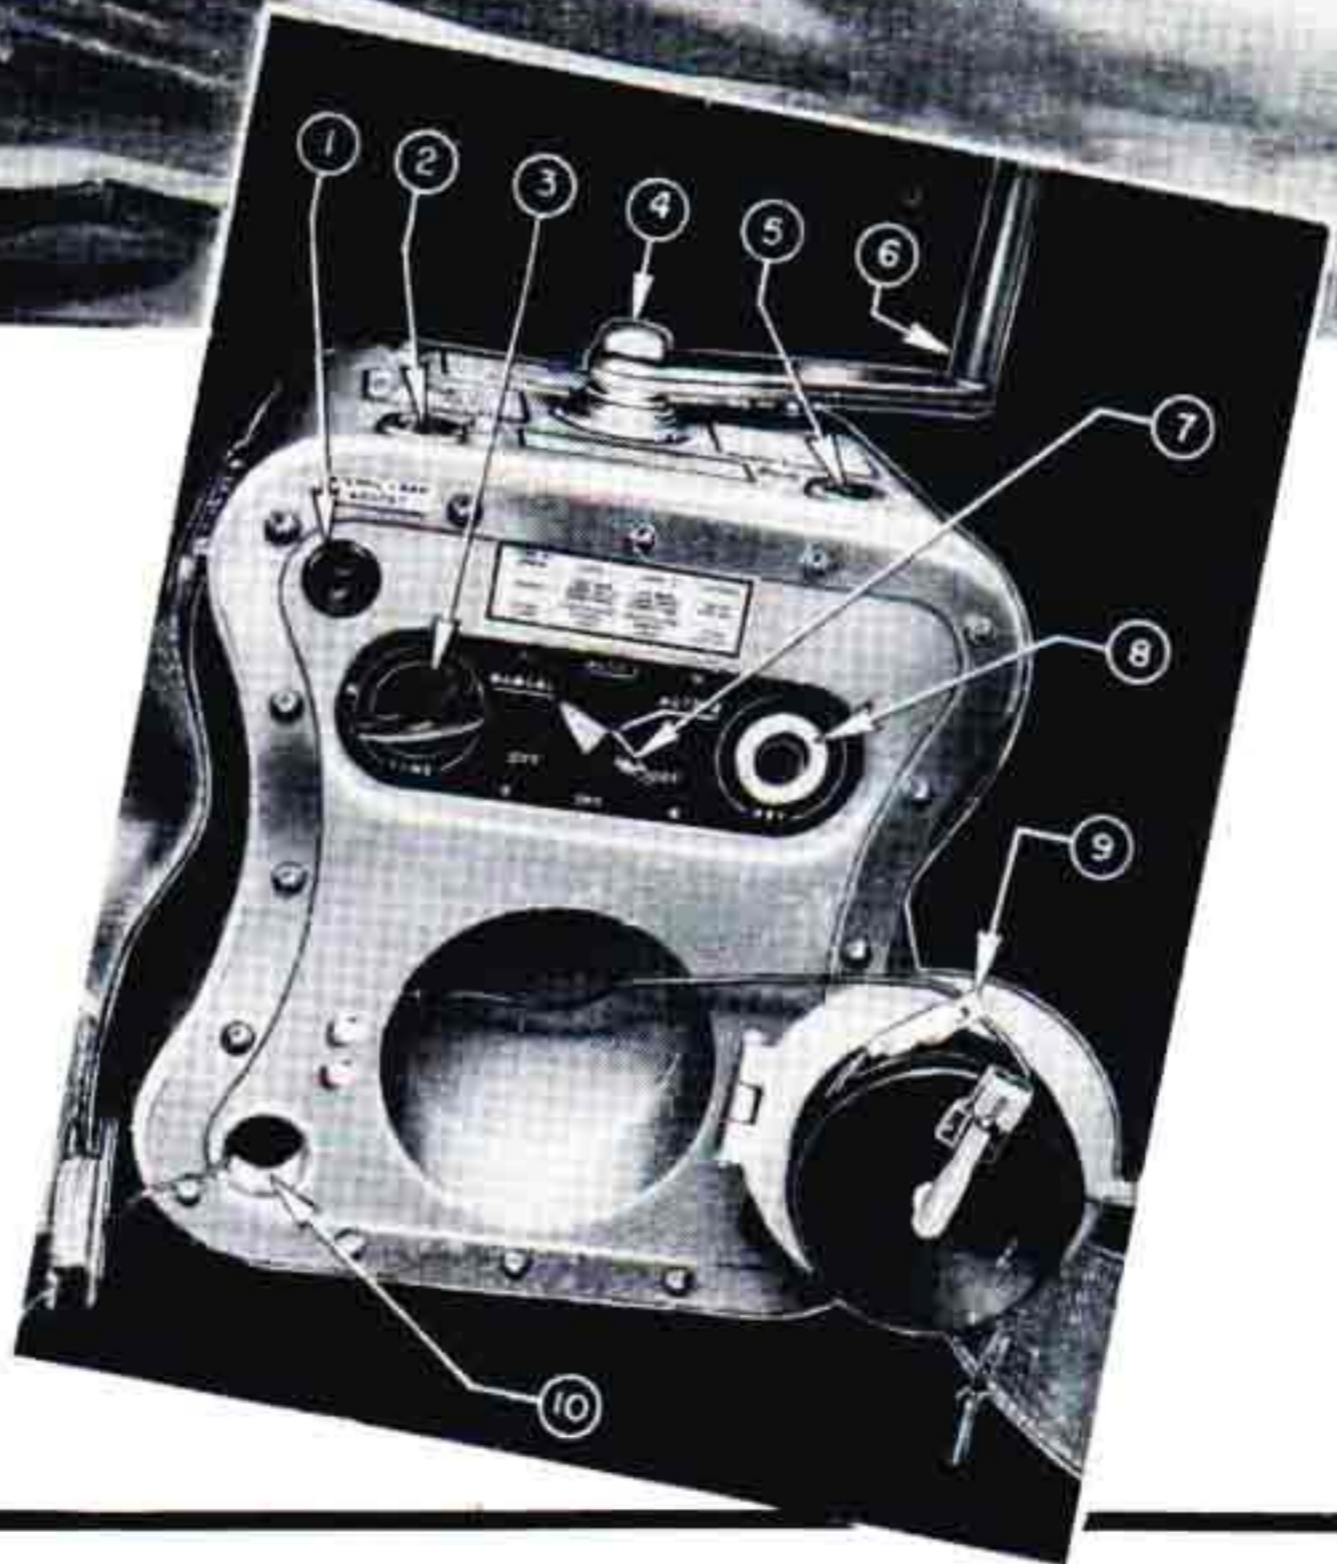

Figure 22—Dinghy Emergency Radio
(c) As soon as the airplane comes to rest after the final impact, rise from the ditching stations and collect the equipment detailed to you in the drill. Leave in the correct order by the hatch assigned to you. Remember that the dinghy radio (figure 22) is the most vital piece of equipment required in the dinghy to assist rescue.
(2) USE OF EMERGENCY RADIO TRANSMITTER.—The SCR-578 radio equipment consists of a transmitter, antenna accessories, and a parachute, all contained in two canvas bags stowed above the left observation window in the navigator's compartment on late B-25D airplanes (see figure 22.) The importance of ensuring that this equipment reaches the dinghy after ditching cannot be too highly stressed. It is the duty of the whole crew to know where this equipment is stowed, so that it will reach the dinghy. Follow these instructions: